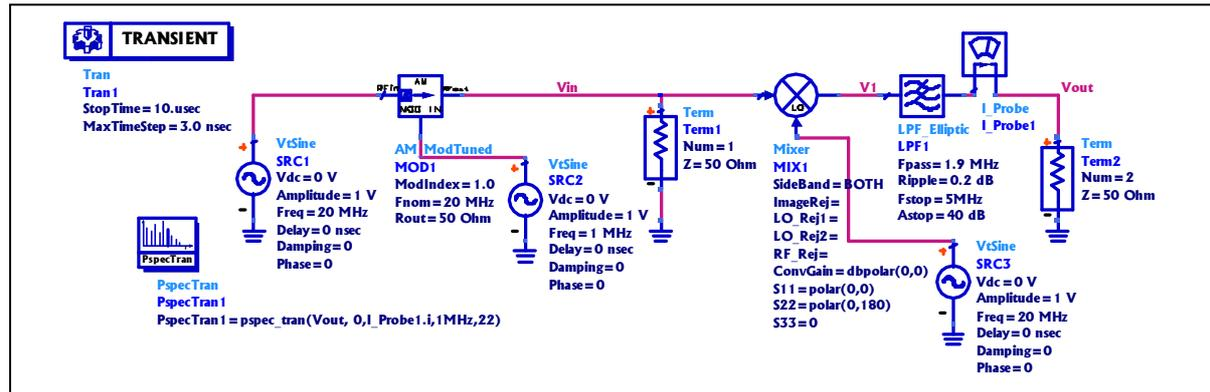

Fig. 10 AM modulated signal, detected by Synchronous demodulator
1. Simulate an AM signal modulated by synchronous detector (see Fig. 10).